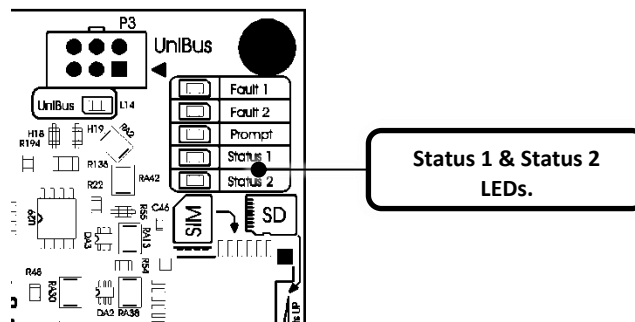

Figure 41
2. Wait for the controller to start. When the controller is up and running, the Status 1 and Status 2 LEDs will flash in an alternating pattern (Figure 41).
2. Wait for the controller to start. When the controller is up and running, the Status 1 and Status 2 LEDs will flash in an alternating pattern (*Figure 41 above*).